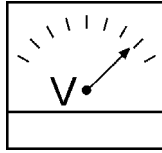

**Figure 38. Frequency Meter**
3. The generator's frequency meter (Figure 38) should be displaying the 60 cycle output frequency in **HERTZ**.